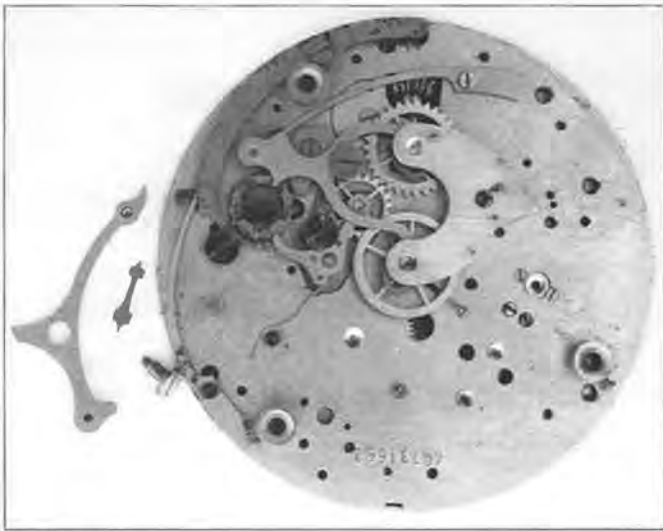

Figure 5
Step 3. Remove the connecting lever and its connecting pinion by first removing the screw going through the lever. A bearing in the base end of this lever pivots on a post that is frictioned into the watch plate. The shouldered screw that goes through a hole in the lever allows the lever to swing back and forth so the connecting pinion can connect and disconnect from the seconds wheel. The shoulder on the screw is long enough to allow the proper freedom between the head of the screw and the top of the lever. The head of the screw prevents the lever from rising up on its stud. Figure 5 shows the lever and pinion after their removal.